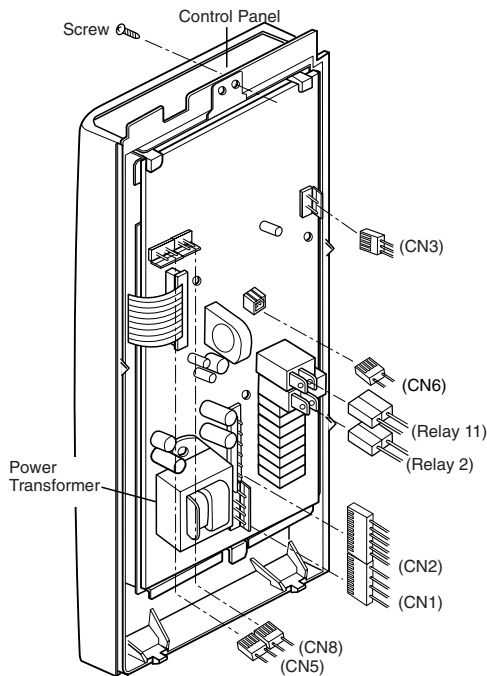

Figure 1
A. REMOVING POWER AND CONTROL CIRCUIT BOARD (Figures 1, 2 and 3)
- (1) Disconnect power at the main fuse or circuit breaker, or pull the plug. Remove the top grille by removing the two screws that hold it in place.
- (2) Remove a screw securing the control panel assembly to the oven cavity.
- (3) Remove the control panel with pushing it upward.
- (4) Remove the six connectors (CN1, CN2, CN3, CN5, CN6, CN8) and wire leads (Relay2, Relay11) from the circuit board.